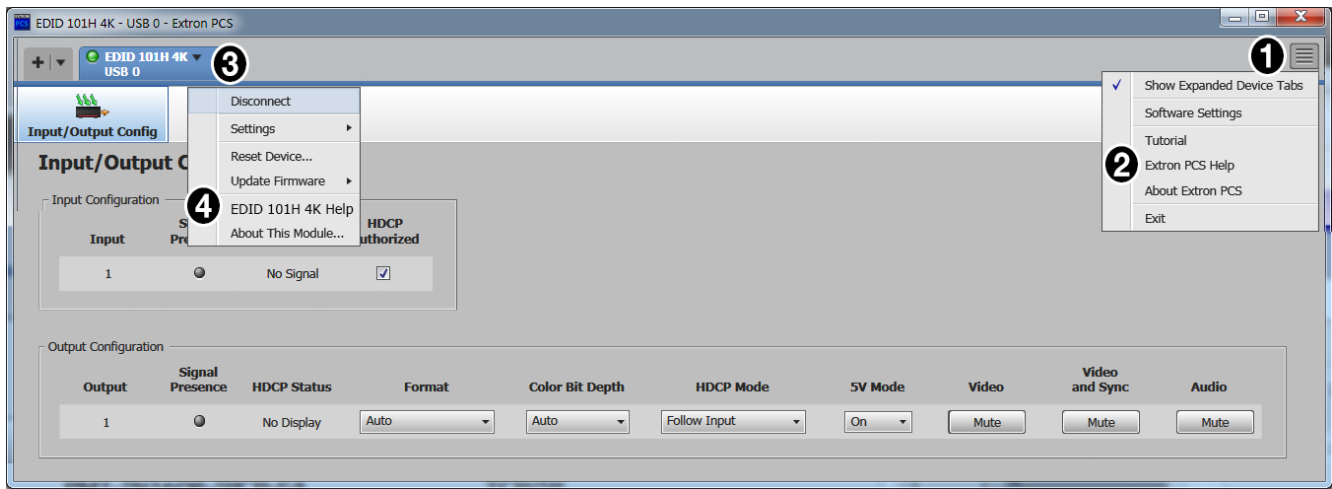

Figure 14. PCS and Device Specific Help Files
- The EDID 101H 4K supports USB connection only. However, all devices located and supported by PCS are listed in the **Device Discovery** panel (see figure 14).
1. Click the **Device Discovery** tab (❶).
2. Double-click the EDID 101H row (❸). A new device configuration tab opens (see figure 14 on page 14).
2. Single-click the row (❸) to highlight it.
3. Click **Connect** (❹). A new device configuration tab opens (see figure 14 on page 14).
When the device page opens, two help files are available; one for the PCS program (see figure 14, ②), and another for the EDID 101H 4K (④).
Click the hidden menu icon () to access a drop-down list (see figure 14, ①), then click **Extron PCS Help** to open the help file (②). The PCS Help file assists with PCS software operation.